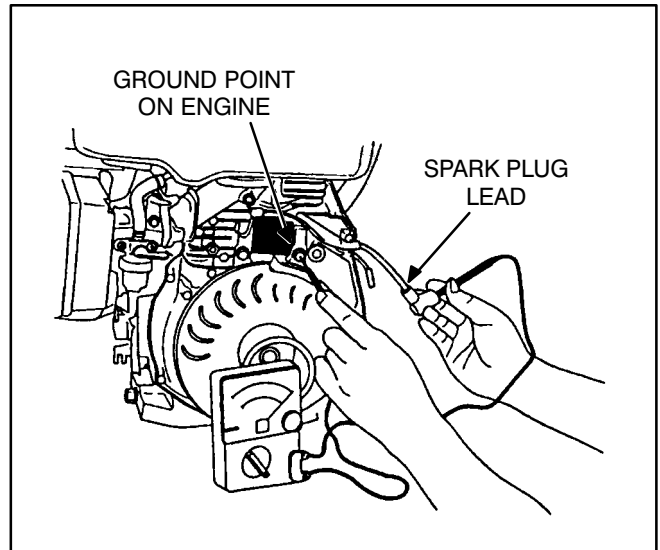

FIGURE 6-5. CHECKING SECONDARY COIL, GH170 AND GH280 ENGINES
7. Measure the resistance between the spark plug lead and a clean metal ground point on the engine (Figure 6-5).